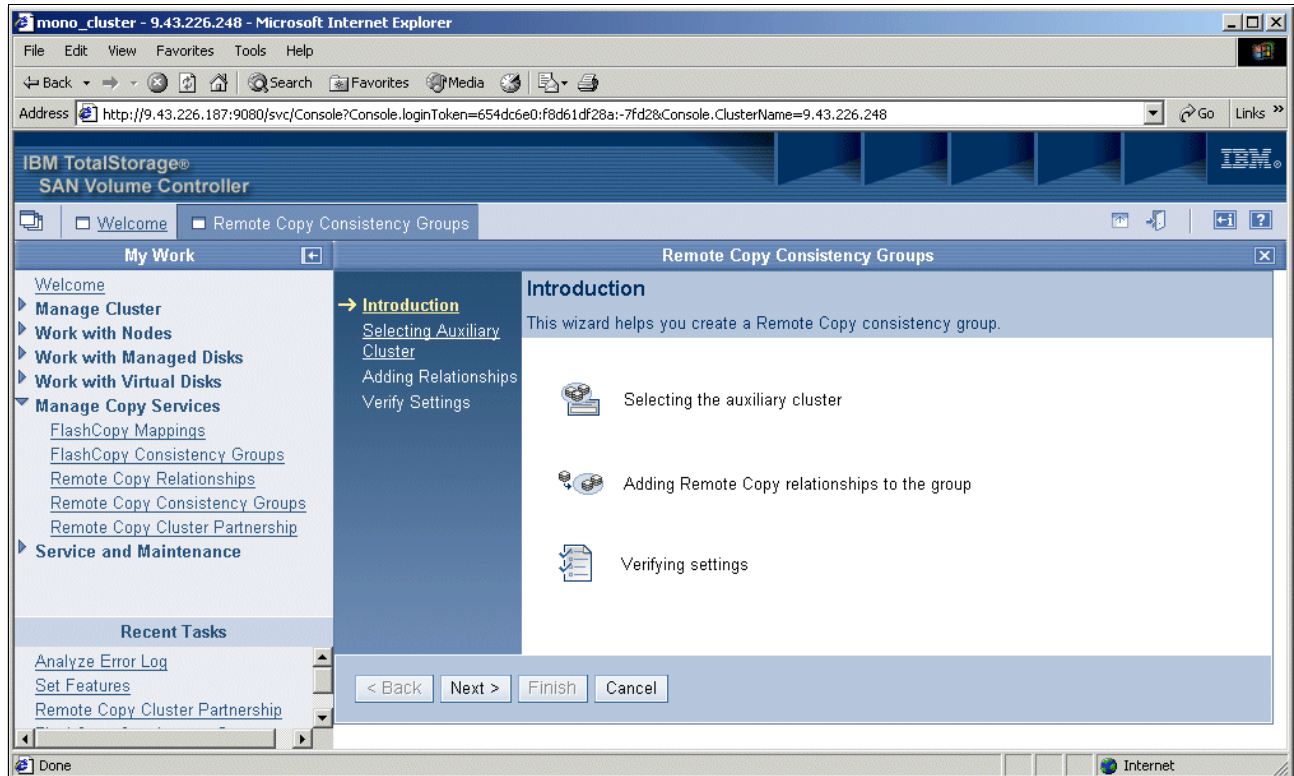

Figure 11-12 Remote Copy Consistency Groups wizard
3. On the first panel of the Remote Copy Consistency Groups wizard (Figure 11-12), click **Next**.